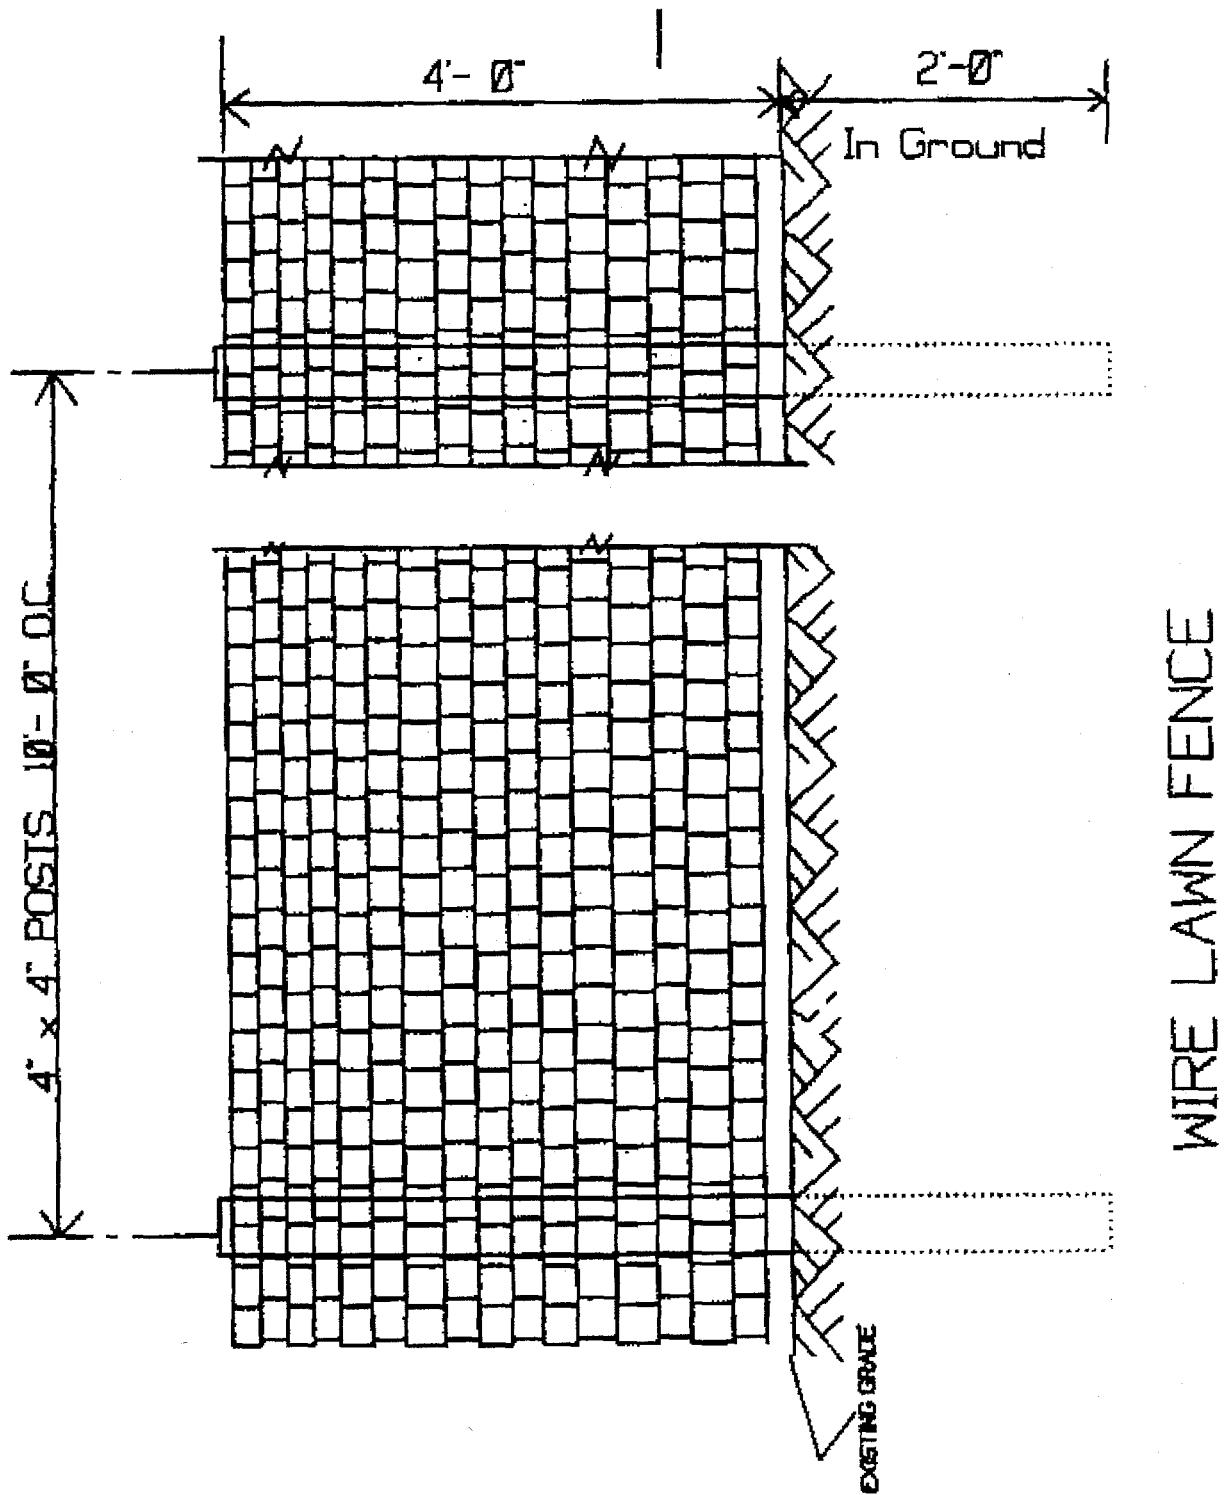

Figure A-2. Engineer Drawing F-11123 – Illustration of Wire Lawn Fence
(2) Lawn type. Lawn or wire fences will conform to Engineer Drawing F-11123 (Figure A-2). Lawn type or wire fences will be 4 feet in height. Round wood posts or wooden posts made of 4- by 4-inch material will be used. Posts will be placed in the ground at least every 10 feet. Lawn type or wire fences will be maintained in a manner to prevent rust.